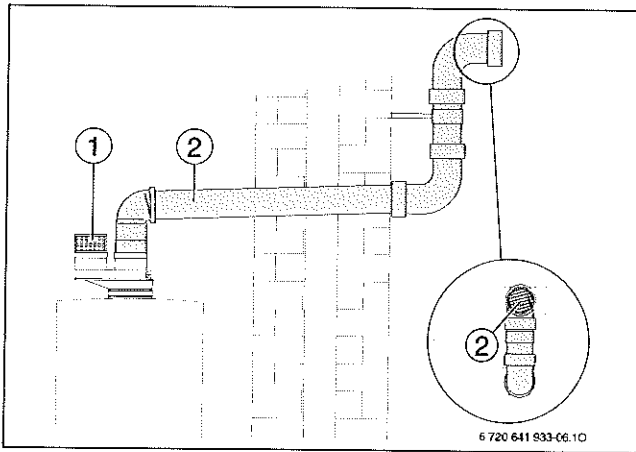
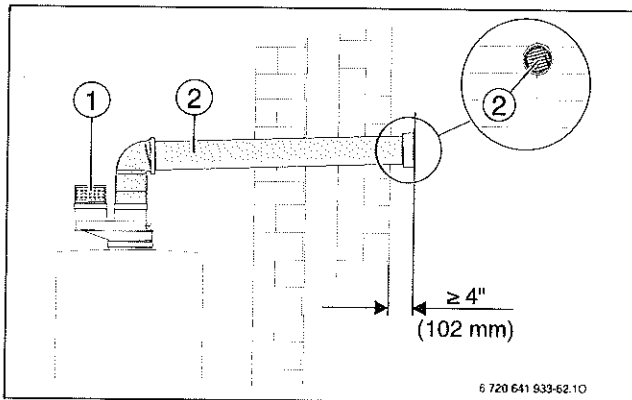

Fig. 27 Horizontal venting system (room air only)
Fig. 28 Horizontal venting system (room air only)
**Key to Fig. 27 and Fig. 28:**